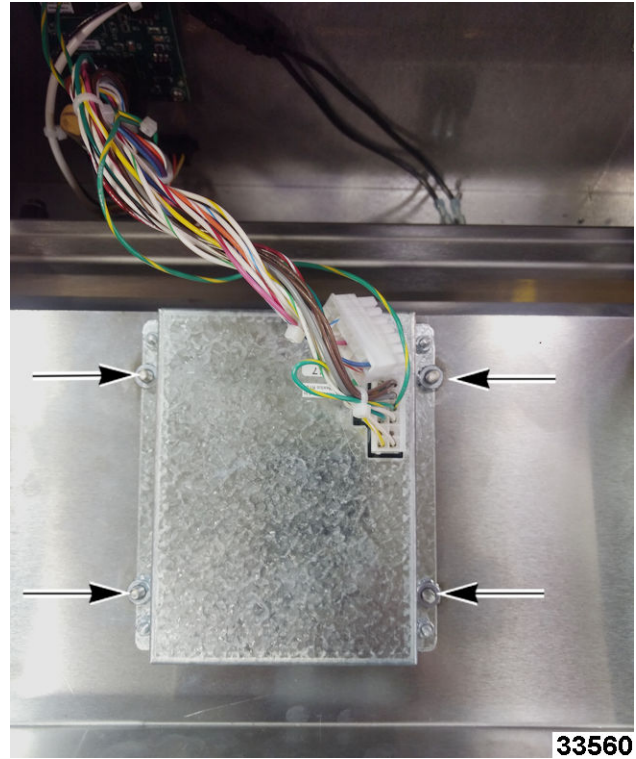

Fig. 16
3. Note and disconnect wire connections (Fig. 16) from back of control board.
4. Remove analog control board mounting nuts (Fig. 16).